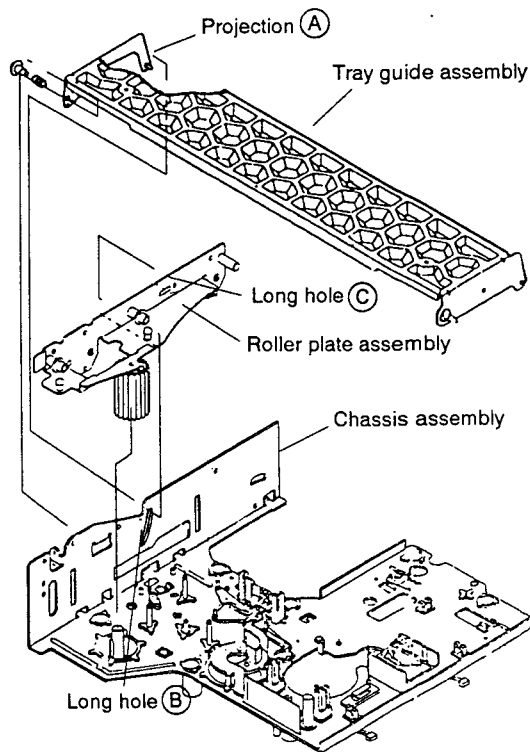

Fig. 17
- ① Install the tray guide assembly in the position where projection (A) of the tray guide assembly fits into the long hole (B) of the chassis assembly and the long hole (C) of the roller plate assembly. (Fig.17)